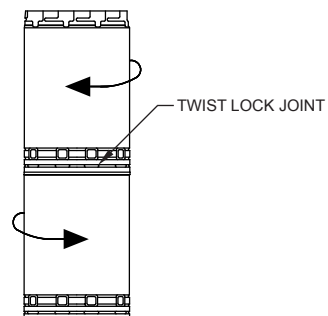

FIG. 5
7. Install Temp/Guard chimney sections starting at the TGCSP. Secure the sections by pushing together and twisting until stop-locked (See FIG. 5). Additional chimney sections may be added to maximum height of 60 feet. At each additional ceiling, a firestop (TGFSA for Unenclosed Installation) (TGFSA-C, For enclosed Installation using Clearance Shields) is required. Insert the TGFSA/TGFSA-C into the joist area prepared in step 5. Continue this process for each floor level until the area above the attic.